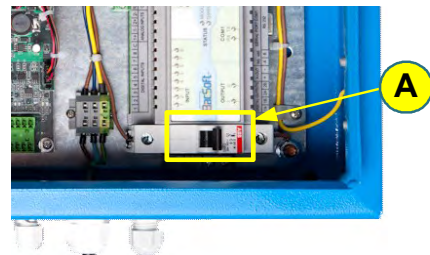

Figure 6-1: Control Module
- Step 4.** Locate the circuit breaker [A] in Figure 6-1 and switch it to the **On** position.